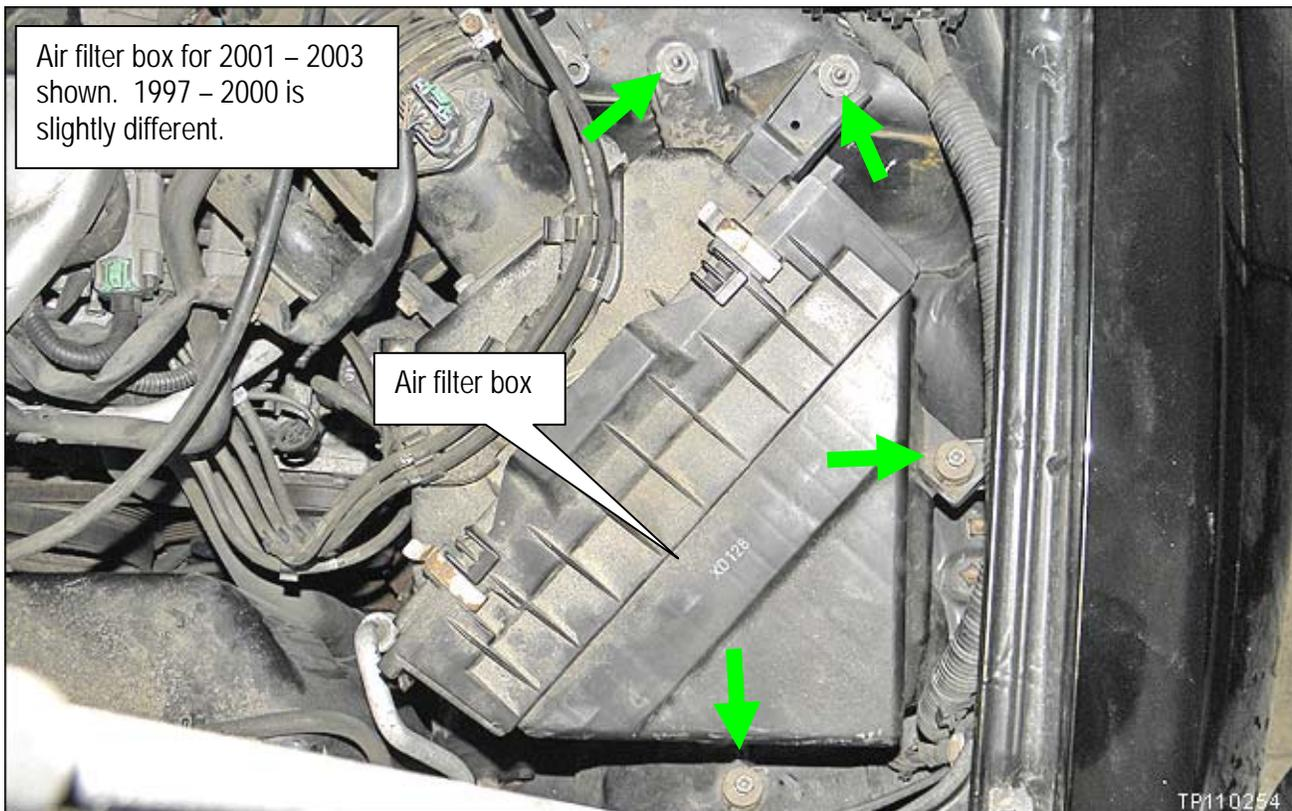

Figure 6
2. Remove the 4 air filter box mounting bolts/nuts shown in Figure 6.